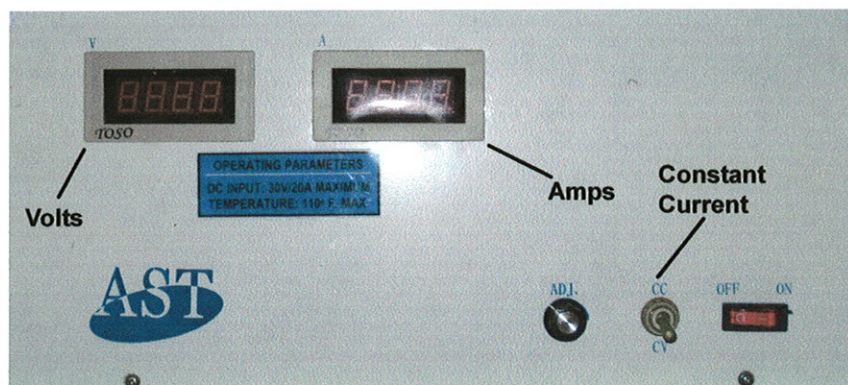

Figure 7. Rectifier
10. Turn on Rectifier. Ensure that Rectifier is set-up for Constant Current (CC) and that the current is set for 20 Amps (figure 7).
- a. Turn off Rectifier (figure 7).